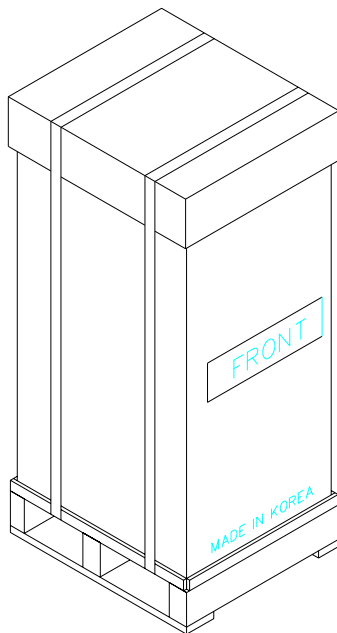

Fig.1
1. Cut the straps that are fastened around the box with a knife. (See Fig.1 below) Be careful when cutting the straps.